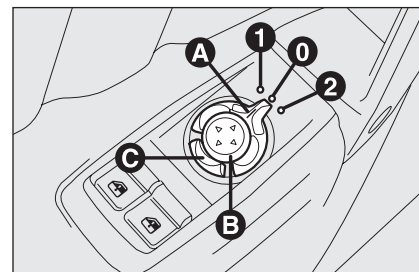

fig. 30
Use device **A**-fig. 30 to select the required mirror:
When required (for example when the mirror causes difficulty in narrow spaces) it is possible to fold the mirrors by pressing button **C-fig. 30**.
To bring the mirrors back to driving position press again button **C-fig. 30**.
- ☐ turn selector **A-fig. 30** to **2** (to select the passenger door mirror);
Proceed as follows: fit the electronic key into the ignition device; engage reverse; turn selector **A-fig. 30** to **2** (to select the passenger door mirror).
The mirror will automatically return to its original position 10 seconds after disengaging reverse, when the car speed exceeds 10 km/h in forward gear or when turning selector **A-fig. 30** to **0**.